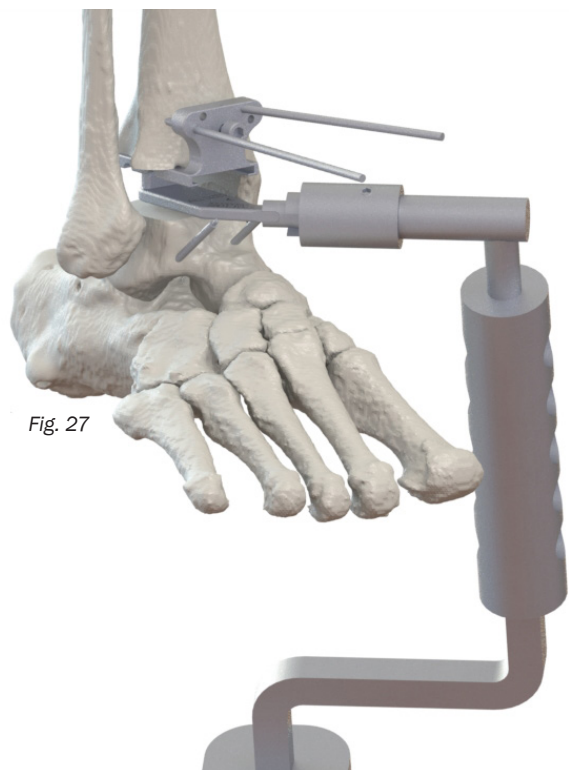

Fig. 27
2.11 Broach through both slots in the Tibial Trial using the Starter Broach and the Offset Impactor (Fig. 27).